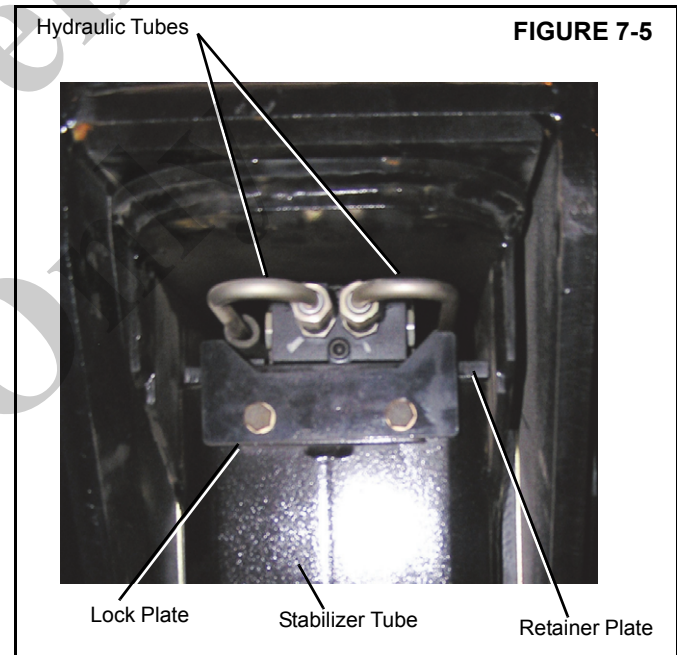

FIGURE 7-5
5. Install the lock plate and capscrews (Figure 7-5).